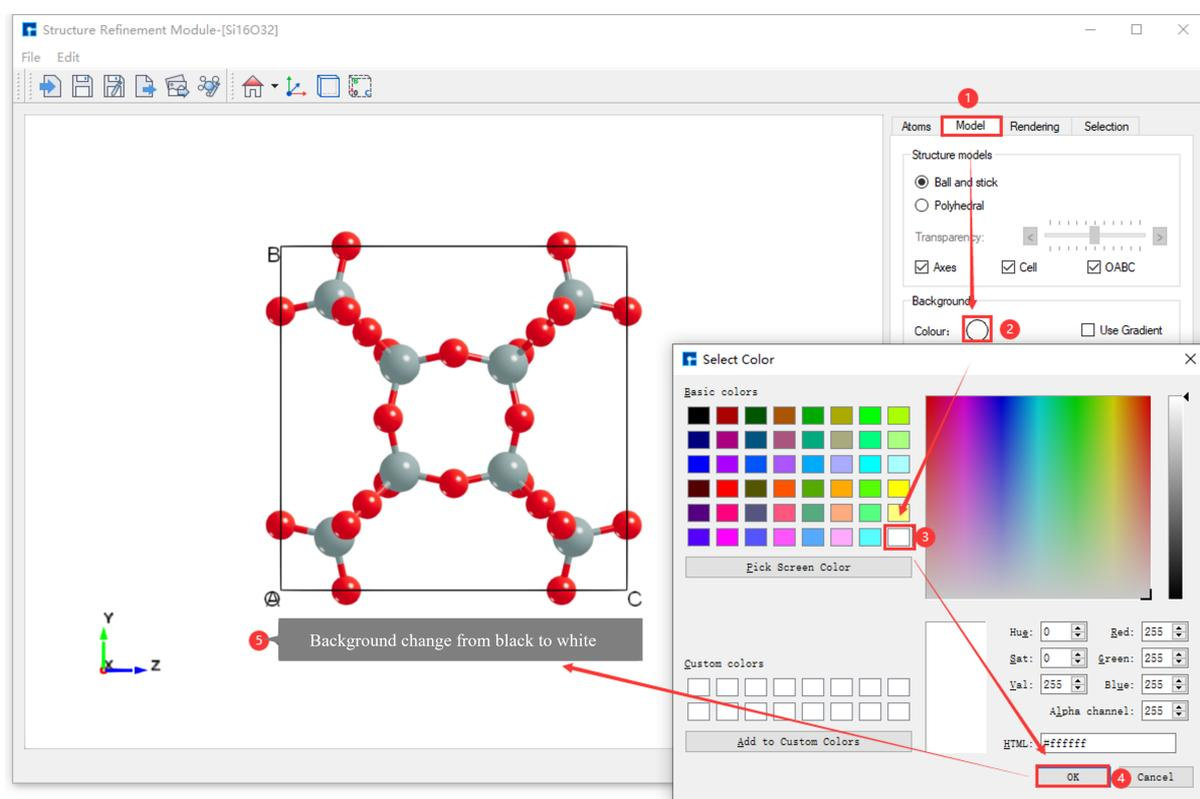

fig. 6.28: The operation interface for changing the background color of the displayed Si16O32 crystal structure from **pure black** to **pure white**.
1. As shown in fig. 6.28, the interface for modifying the **background color** of the displayed Si16O32 crystal structure from **pure black** to **pure white** is shown.